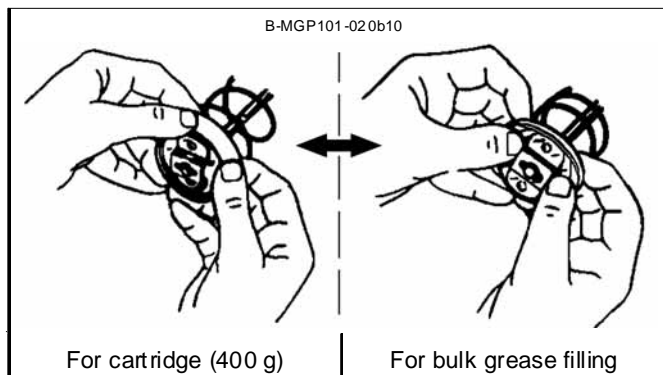

Fig. 4-4 Adjustment of the follower piston packing
- For initial filling with 400g lubricant cartridge adapt filling variant, if necessary (see Fig. 4-4).
- 4. Remove plastic sealing cover (B.1) from grease cartridge (B) and push cartridge with that side into the press reservoir (A).
- 3. Evert packing of follower piston (see Fig. 4-4)
- For initial filling with bulk grease filling adapt filling variant, if necessary (see Fig. 4-4).